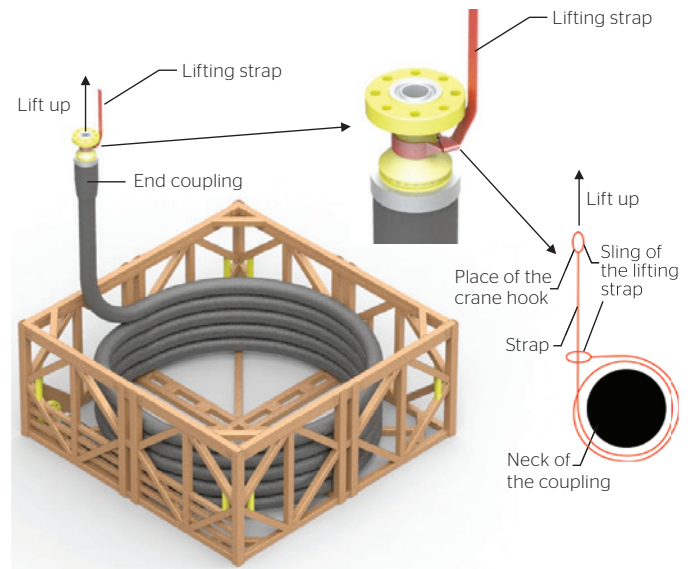
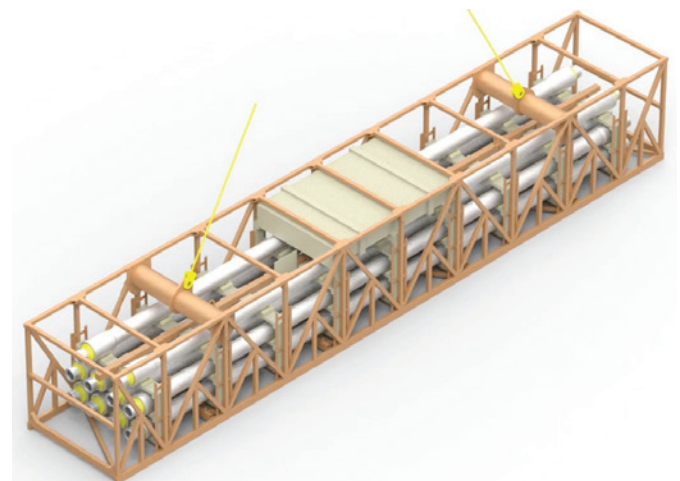

Fig. 17 Alternative method of lifting the flexible line from the crate
Fig. 24 Typical transportation steel pallet
- Alternatively, if the diameter of end connector of a coupling is considerably bigger than the coupling's neck, the flexible line can be lifted with a lifting strap. See Fig. 17. The lifting strap has to be placed on the neck of the coupling on the finishing end in at least two full turns. The sling of the lifting strap has to be fixed to the crane's swivel hook.
Steel pallet frames are used in situations where the flexible properties are such that reeling is not an option. In such cases, the flexible should be lifted as shown in Fig. 17 & 18 unless specific instructions to the contrary are provided in the documentation package provided with the flexible lines. A general arrangement drawing of a steel pallet frame is shown in Fig. 24.